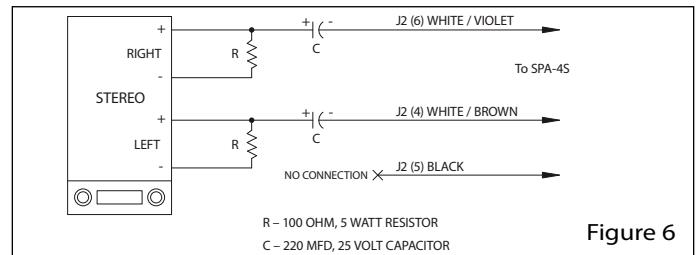

Figure 6
- of the portable stereo. Suitable cables are available at your local Stereo or electronics store as well as from Sigtronics. Speaker level output car stereo music sources can also be used with the SPA-4S system. A Floating Ground Adapter or a four wire to three wire converter will have to be used between the Stereo and the SPA-4S music input. Figure 6 shows such an adapter and how it is wired into the SPA-4S.